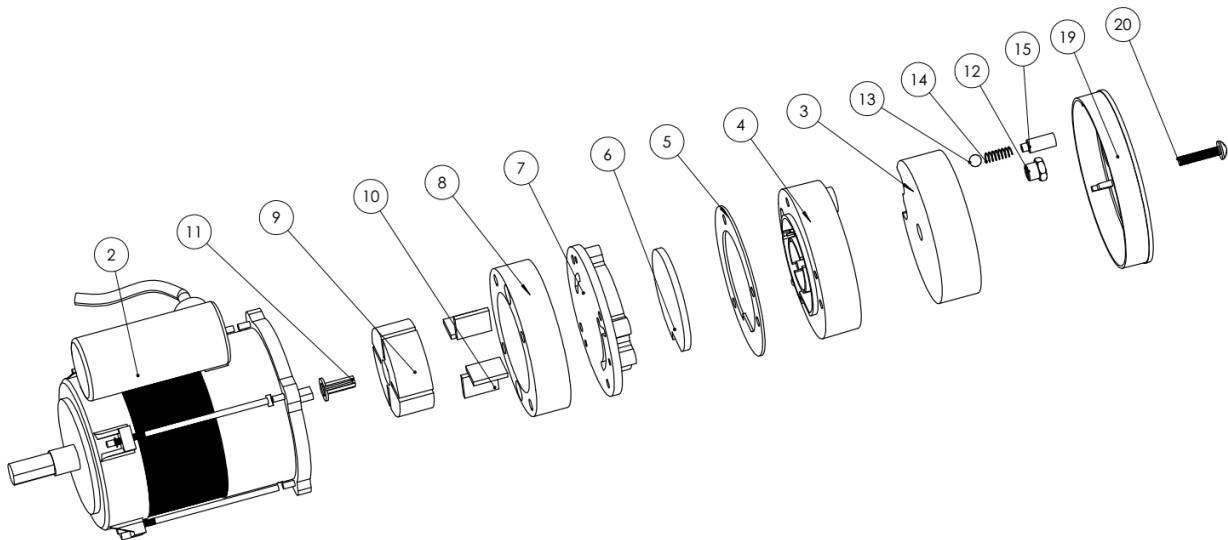

Fig.2
Clean air filters. Remove filter end cover (19), wash air intake filter (3) using a light detergent and dry it thoroughly before reinstalling. Replace air delivery filter (6) once a year (Fig.2)